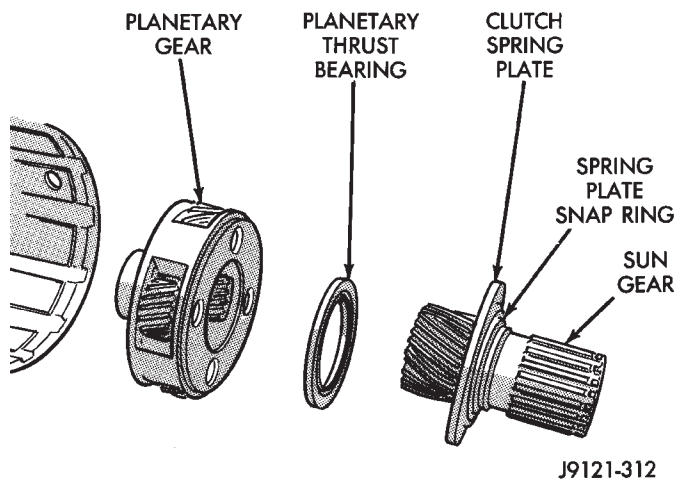

Fig. 267 Removing Sun Gear, Thrust Bearing And Planetary Gear
(2) Remove sun gear and spring plate. Then remove planetary thrust bearing and planetary gear (Fig. 267).